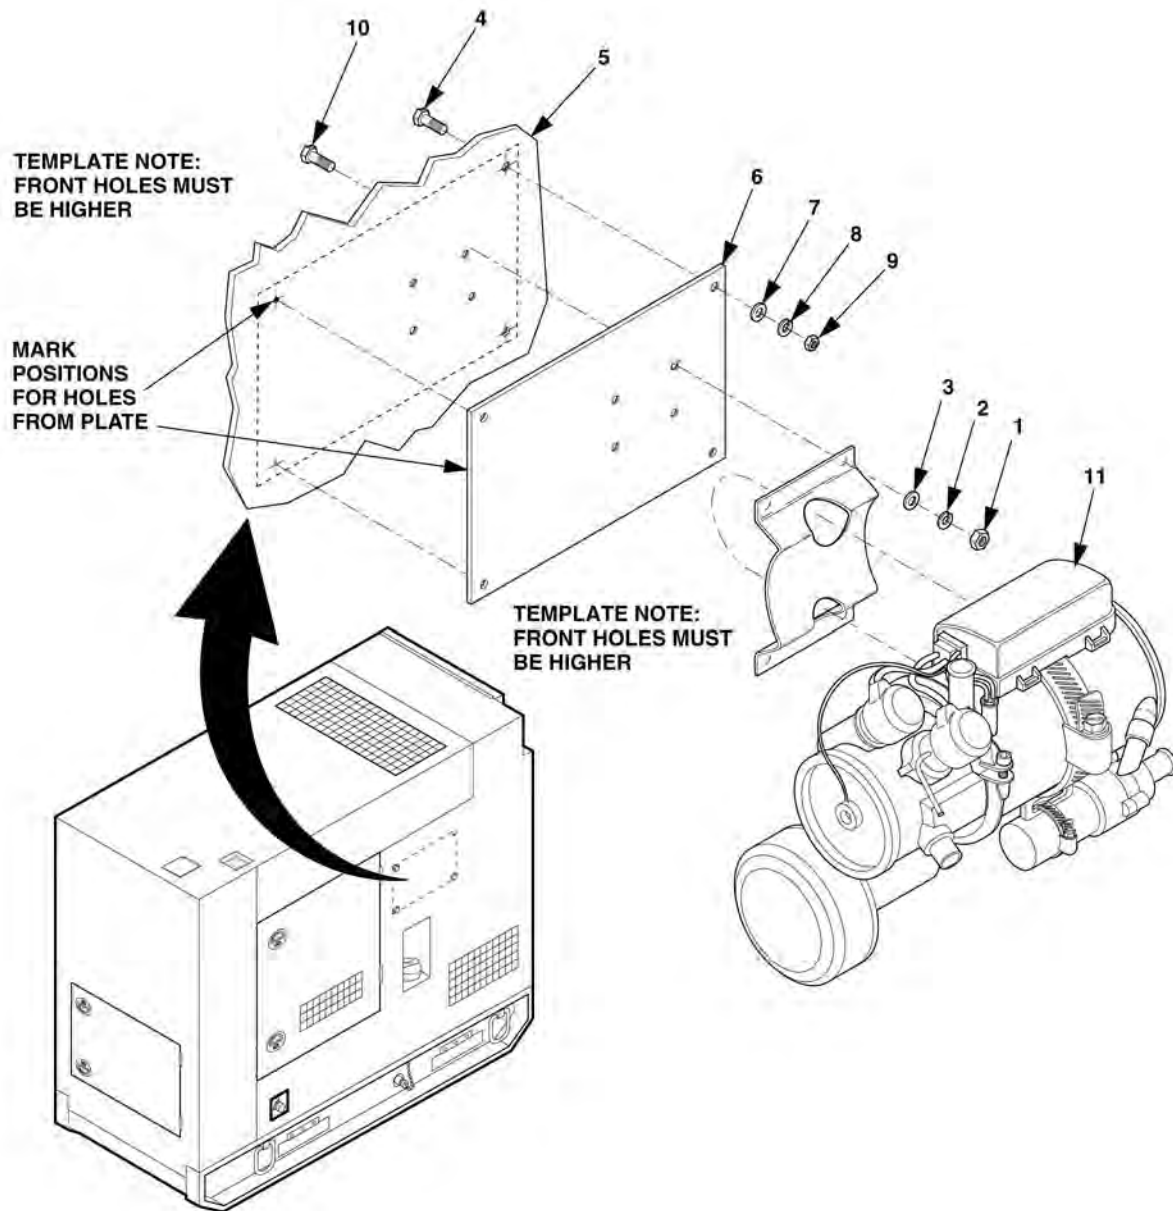

Figure 5-1. Heater Assembly
2. Drill holes outside of left side panel using heater mounting plate (6), Figure 5-1, as a template. Before drilling holes, look inside housing to verify proper position and clearance of mounting plate. To install the heater mounting plate, perform the following steps: using the plate as a template, place it 1.75" from the top left access door flange and 2" across from the door hinge flange to locate the edge of the plate.